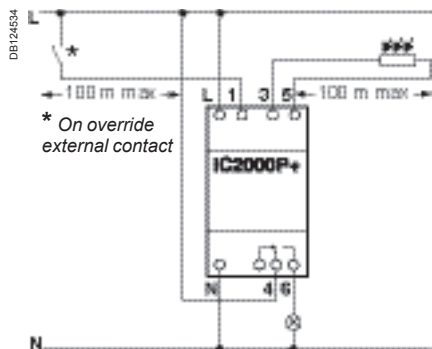

Fig. 2.
- This external override takes priority over the product On/Off override function (see Fig. 2, 3).